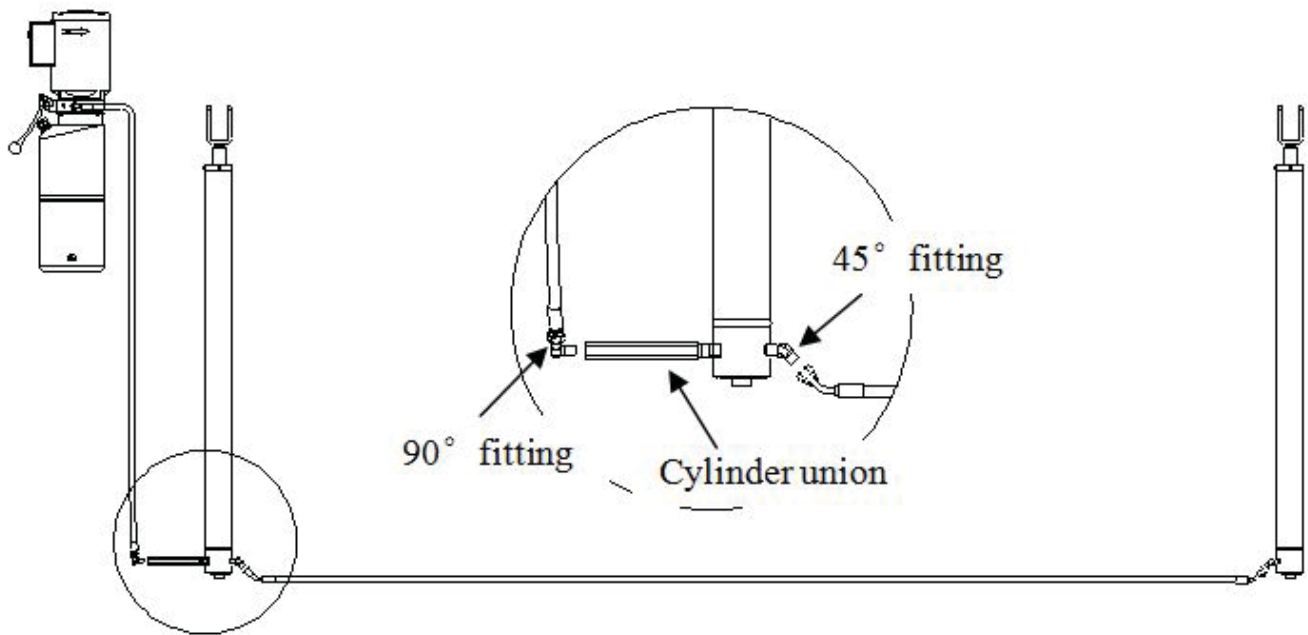

Figure 13 – Hydraulic Line Connection
7.10 Connection Of Hydraulic Hoses (Ref. Fig.13)